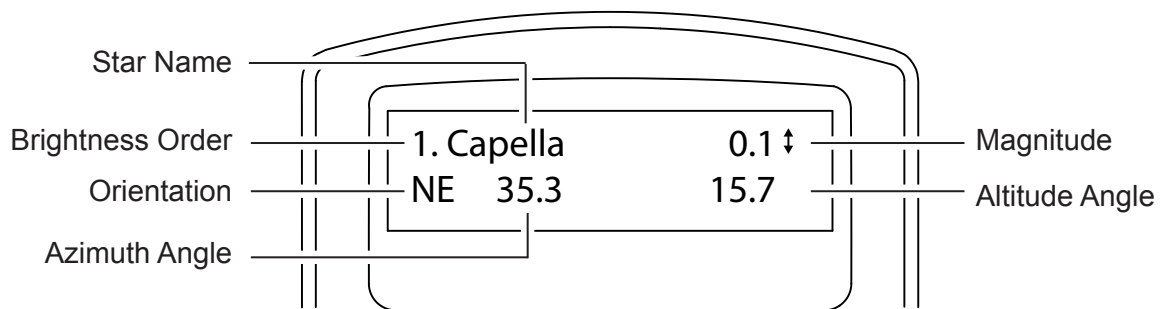

Fig. 3.4b
3. The hand controller will generate a list of the bright stars within the selected horizontal region. The list is sorted by the brightness of the star and with the brightest stars at the top of the list. Users can use the scroll keys to browse the list. An example of the screen display is shown in Fig. 3.4b.